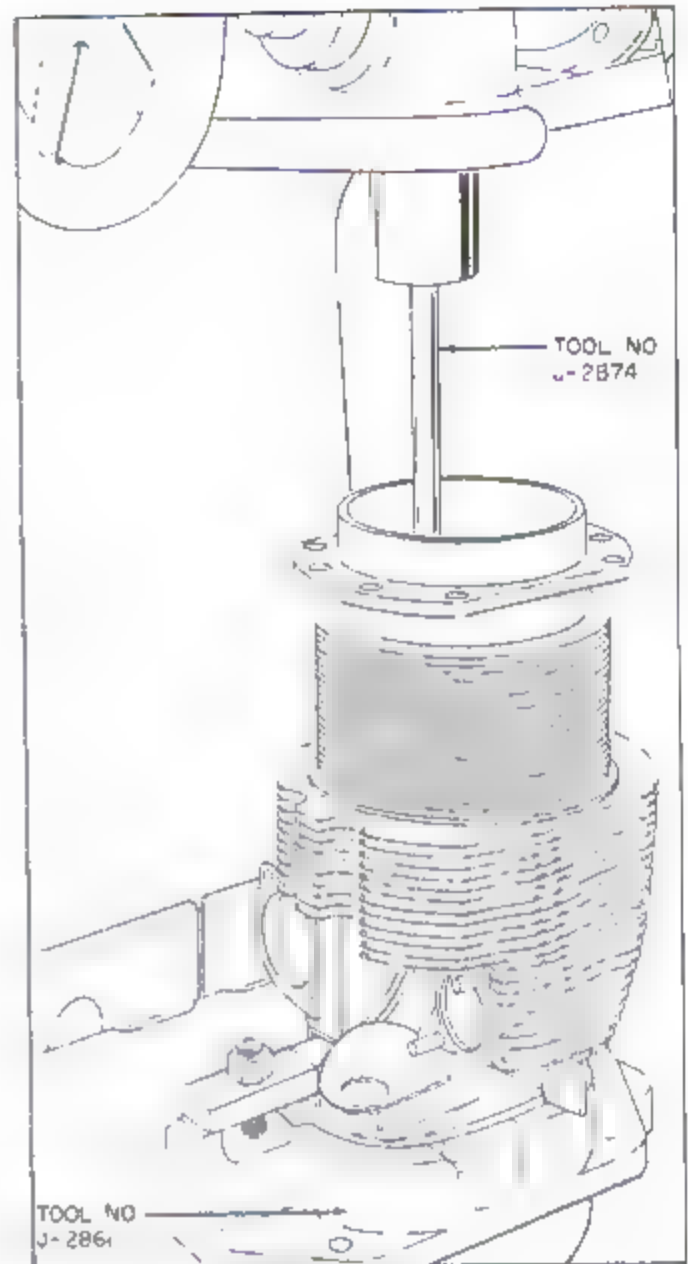

Figure 5-7. Removing Valve Guide
b. Insert the Group 6 valve guide remover into the guide stem hole, and bring the ram down on the tool end, making sure that the tool is square with the guide. Apply pressure to force the guide from the cylinder head bore. (See figure 5-7.)